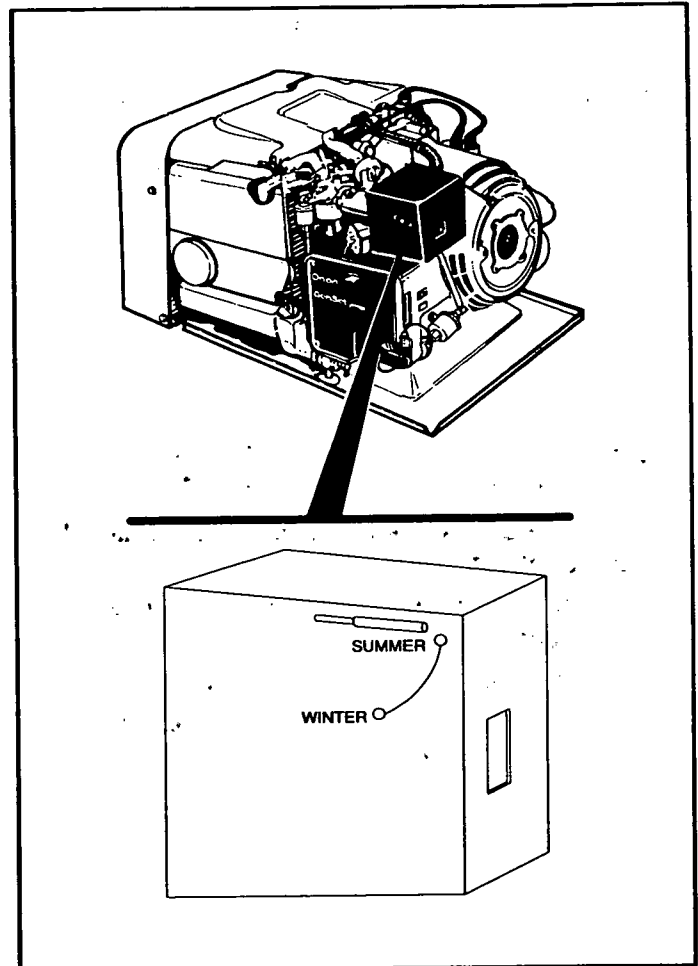

FIGURE 6. CARBURETOR PREHEATER LEVER
2. At temperatures below 40° F (4° C), push the carburetor air preheater lever down to the WINTER position. The lever is located on the front of the air cleaner (Figure 6). At temperatures between 40° F (4° C) and 70° F (21° C), the preheater may be left in either position.
4. At temperatures above 70° F (21° C) push the carburetor preheater lever up to the SUMMER position. The lever is located on the front of the air cleaner (Figure 6).